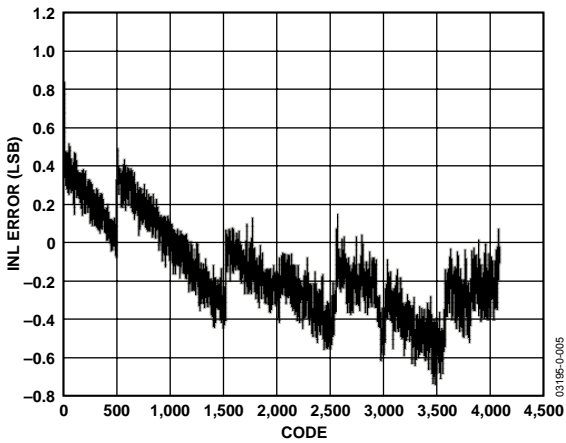

Figure 5. Typical INL Plot
Relative accuracy or integral nonlinearity (INL) is a measure of the maximum deviation, in least significant bits (LSBs), from an ideal line passing through the endpoints of the DAC transfer function. Figure 5 shows a typical INL vs. code plot. The ADN8810 INL is measured from 2% to 100% of the full-scale (FS) output.